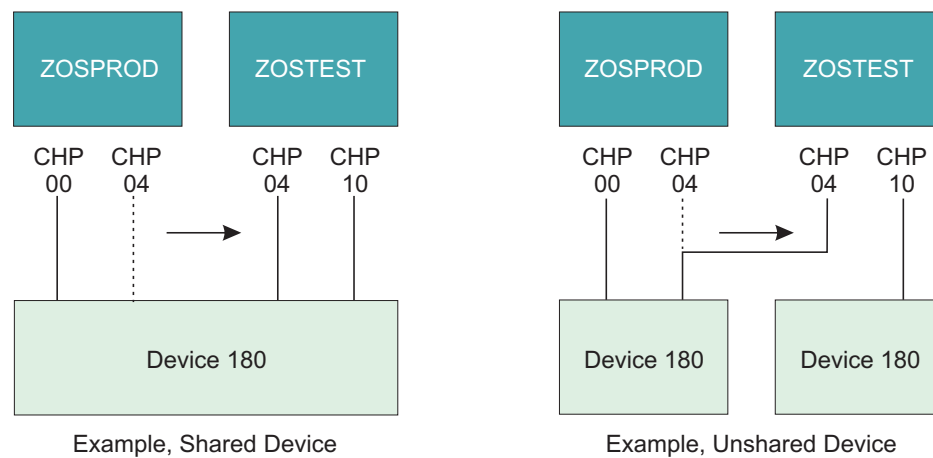

Figure 22. Two examples of duplicate device number conflicts
Examples of duplicate device number conflicts: Figure 22 provides two examples of duplicate device number conflict.
The following example shows the IOCP statement for Figure 22. Both examples use identical IOCP statements.
In Figure 22 on page 60 ZOSTEST can access device 180 only through channel path 10 if the operator takes no action in response to the conflict message.
1. Configure offline the original channel path (CHP 10 in Figure 22).
2. Configure offline and then online the reassigned channel path (CHP 04 in Figure 22).
3. If necessary, configure online the original channel path (CHP 10 in Figure 22). Another conflict message is issued because a new conflict has been created. The operator then ignores this conflict as described in option A. (Access is still allowed to any nonconflicting devices on the original channel path.)
In Figure 22, ZOSTEST can access device 180 only through channel path 04 if the preceding steps are performed in response to the conflict message.
In Figure 22 (shared device), ZOSTEST can access device 180 through CHP 04 and CHP 10 if CHP 04 is defined to ZOSTEST in the IOCDS.
In Figure 22 (unshared device), ZOSTEST can access either device 180 (unshared device) if one or both of the devices are assigned a new device number in the IOCDS.
In Figure 22, if ZOSTEST is not active when CHP 04 is reassigned, or ZOSTEST is deactivated and then activated after CHP 04 is reassigned, ZOSTEST does not activate until the conflict over device 180 is resolved.